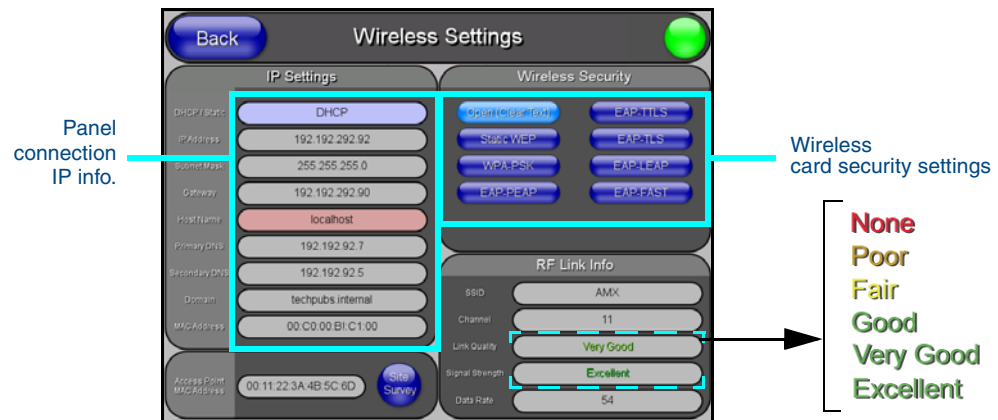

FIG. 37 Wireless Settings page (showing a sample unsecured configuration)
- The descriptions are: **None, Poor, Fair, Good, Very Good, and Excellent** (FIG. 37).